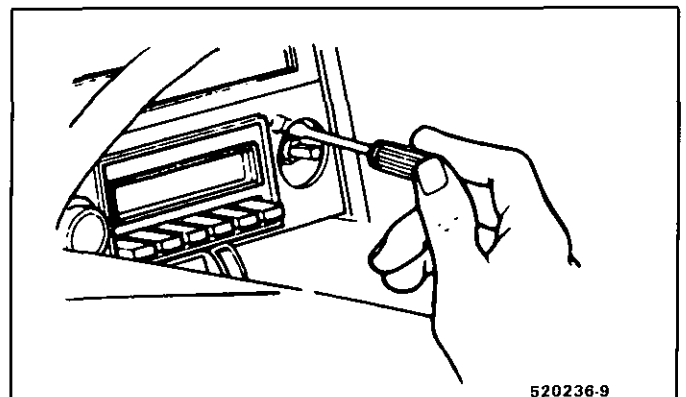

Fig. 1 AM Band Antenna Trimming
3. Use a small screwdriver to adjust the trimmer screw (Figure 1). Adjust the screw for the loudest volume.